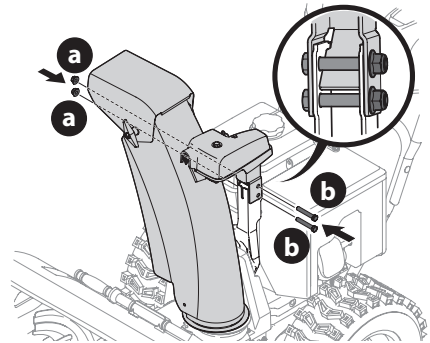

Figure 28
3. Secure chute control head to chute support bracket with lock nuts (a) and hex screws (b) removed in Step 1 (Figure 28).